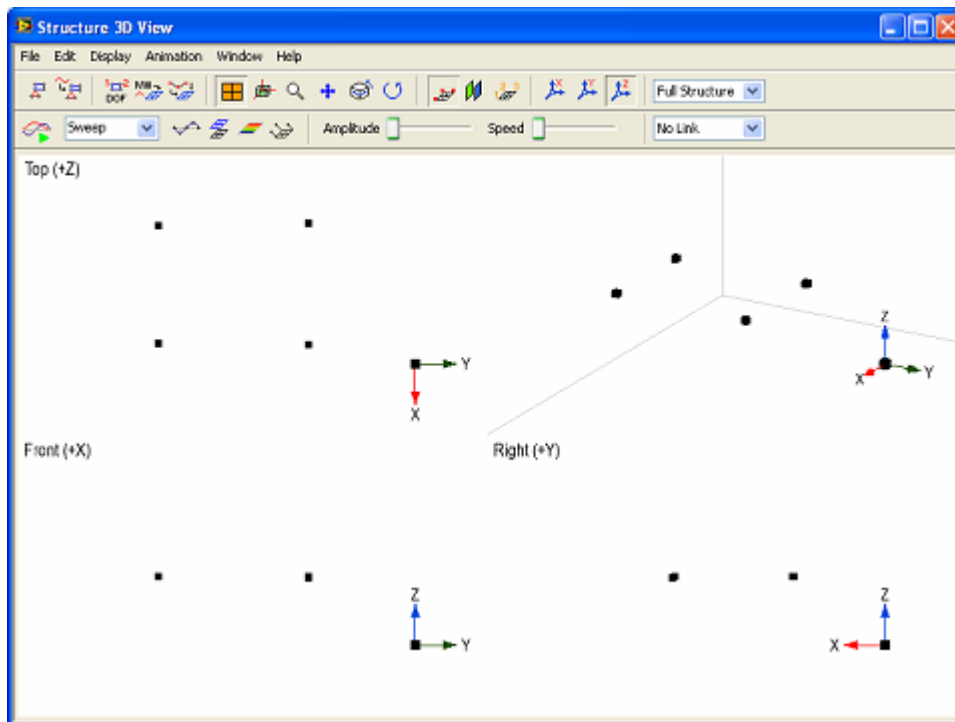

Figure 2-5 Quad view display
- Click mouse cursor in structure view window to add four nodes, as Figure 2-5 shows.